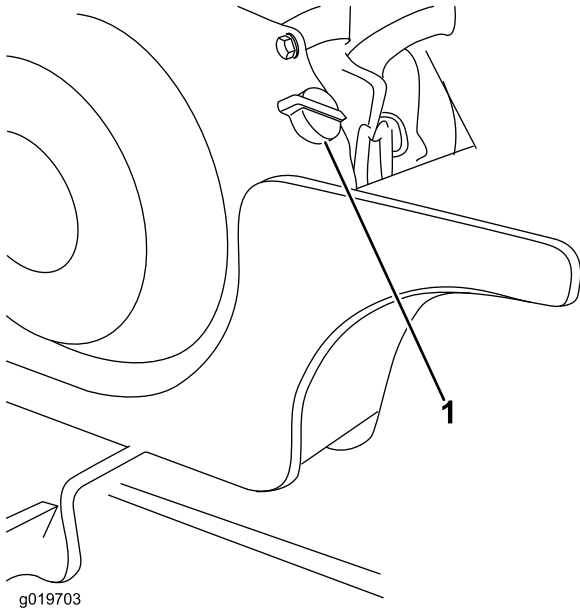

Figure 12
1. Move the engine switch to the ON position (Figure 12).